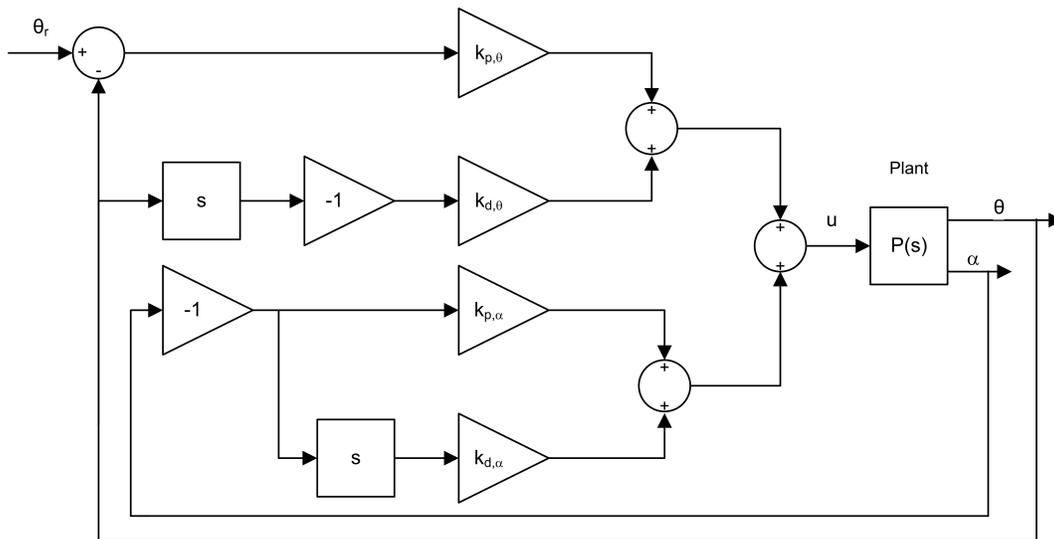

Figure 1.1: Block diagram of balance PD control for rotary pendulum
Balancing is a common control task. In this experiment we will find control strategies that balance the pendulum in the upright position while maintaining a desired position of the arm. When balancing the system, the pendulum angle α is small and balancing can be accomplished with a simple PD controller, as shown in Figure 1.1. If we are further interested in keeping the arm in a desired position, a feedback loop from the arm position will also be introduced. The control law can then be expressed as
- Add the necessary Sum and Gain blocks to implement the PD control given in Equation 1.1 and illustrated in Figure 1.1.